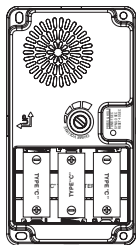

Figure 2
2. Install 3 alkaline “C” batteries (not included) into chime base. Make sure batteries are installed according to the diagram inside the chime (see Figure 2).